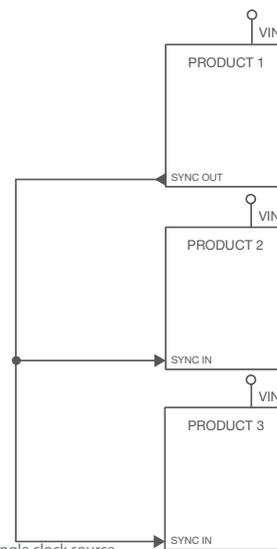

Figure 2. Internal single clock source.
- 2 Internal single clock source. One of the products in the group is configured to source the common switching clock by setting the SYNC pin to an output state. The SYNC pin of all other products in the group is configured as an input. See illustration in Figure 2.